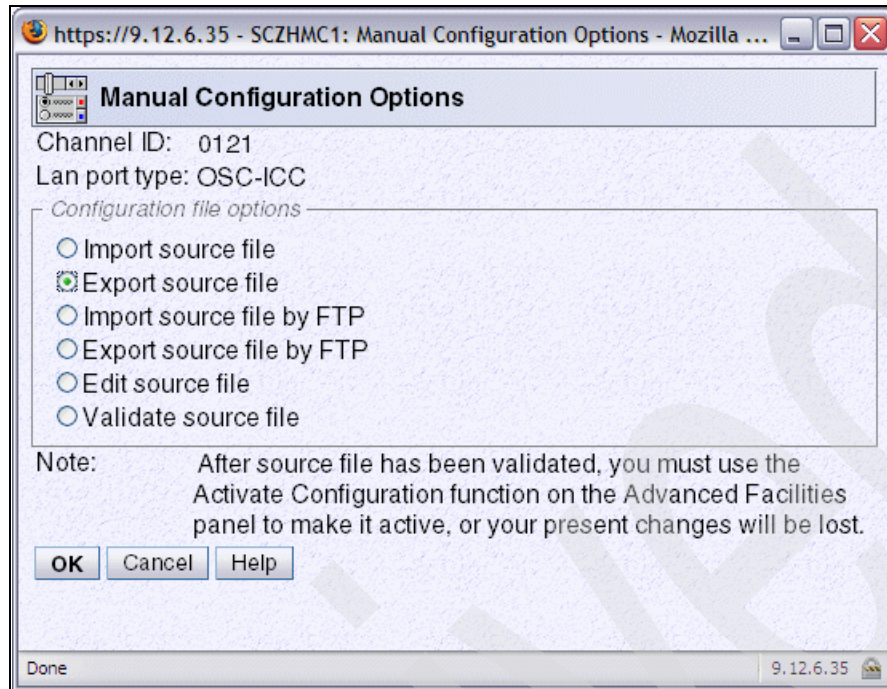

Figure 4-41 HMC - OSA Advanced Facilities (Export source)
7. Select the radio button **Export source file** and click **OK** (Figure 4-41).